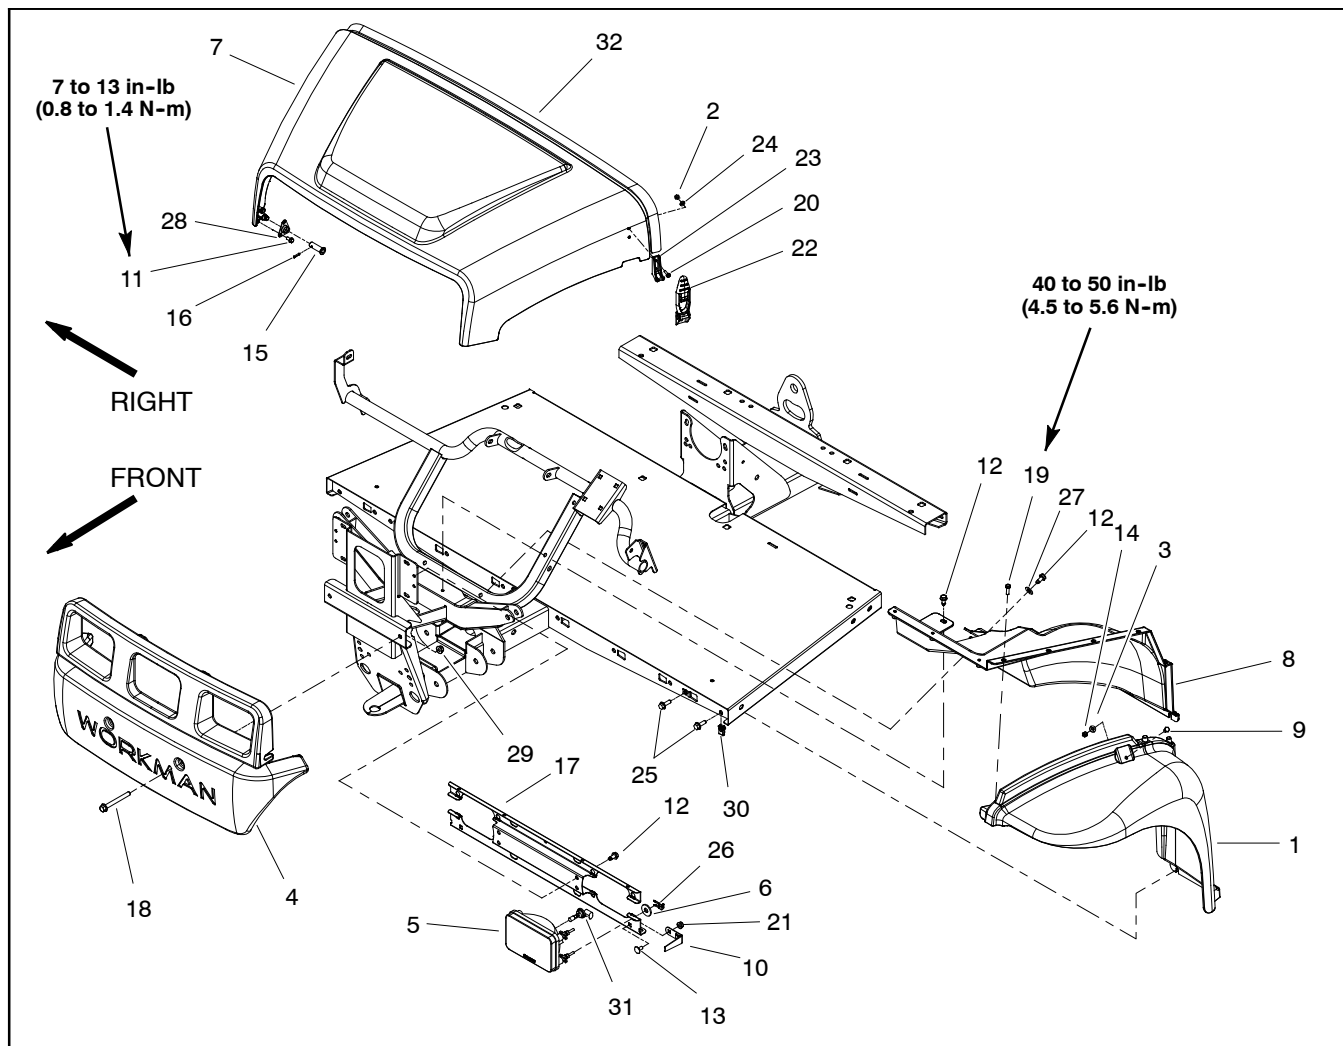
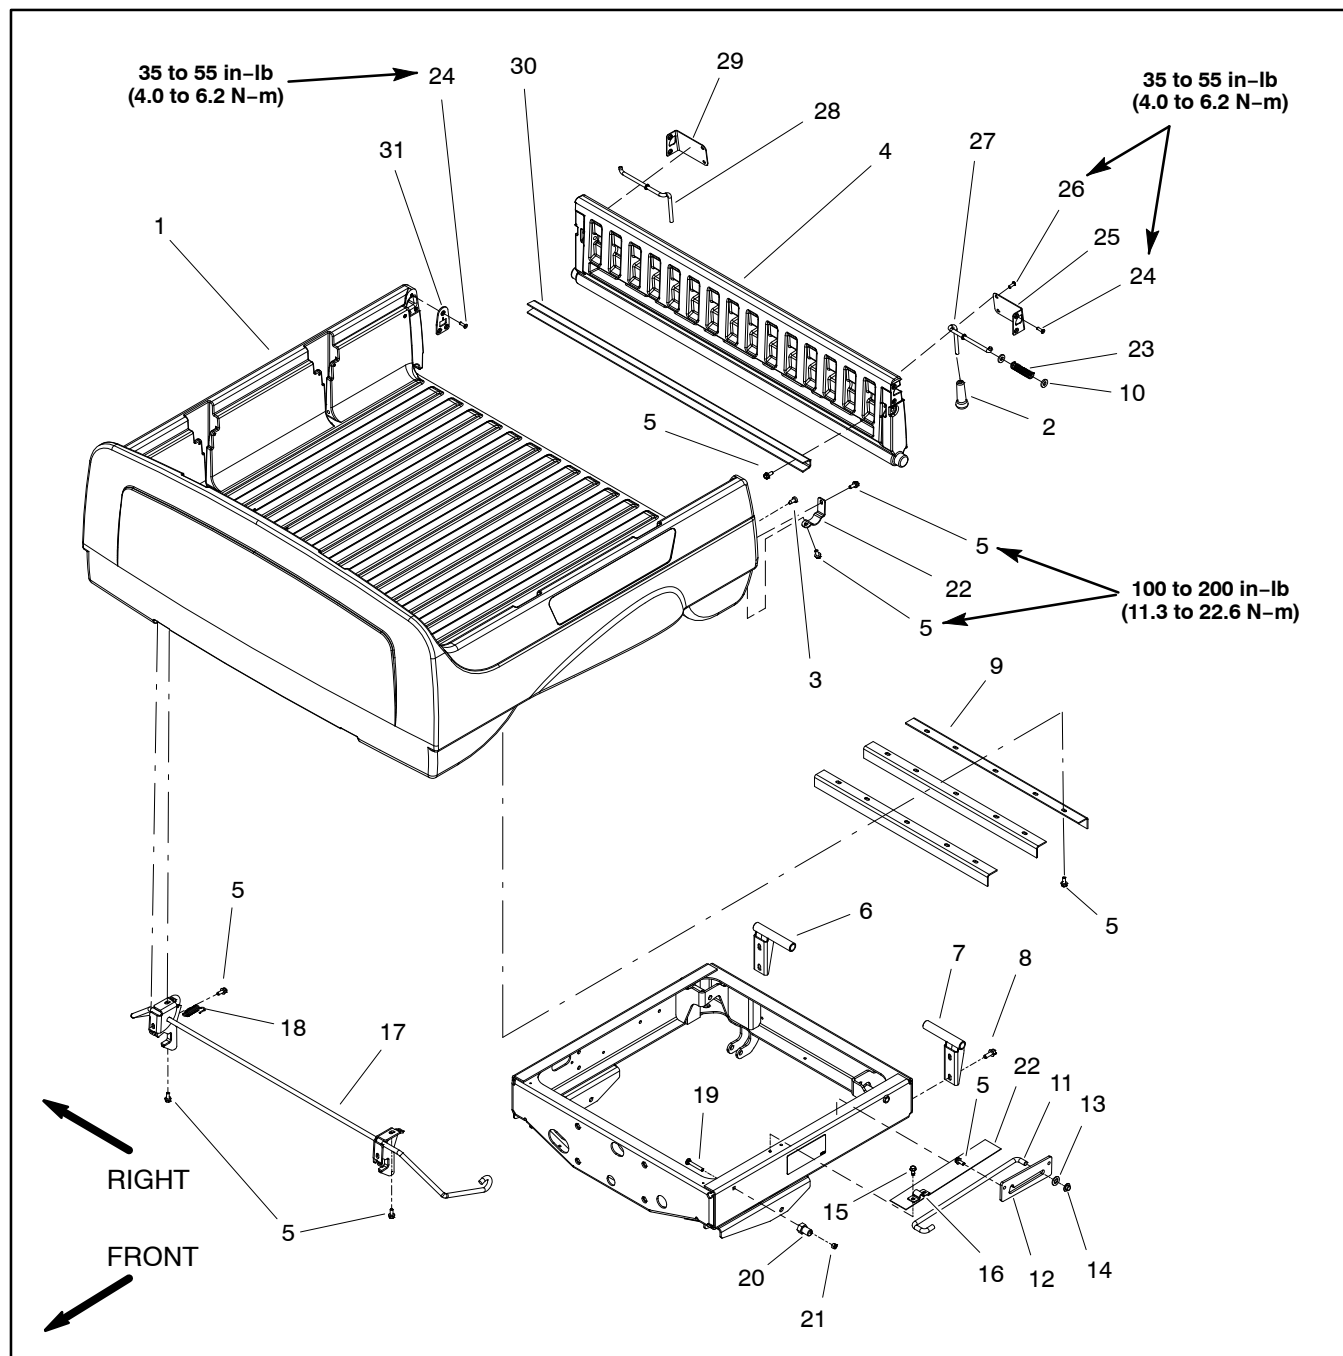

Figure 37
Figure 38
Removal (Fig. 37)
2. Remove hood using Figure 37 as a guide.
Installation (Fig. 37)
1. Install hood using Figure 37 as a guide. During assembly, use fastener torque specifications that are identified in Figure 38.
Removal (Fig. 38)
2. Disassemble cargo box as necessary using Figure 38 as a guide.
Installation (Fig. 38)
1. Assemble cargo box using Figure 38 as a guide.
- A. When installing tailgate and tailgate hardware, use torque specifications identified in Figure 38.
- B. Adjust latch pin (item 20) so that cargo box is tight to frame when latched.